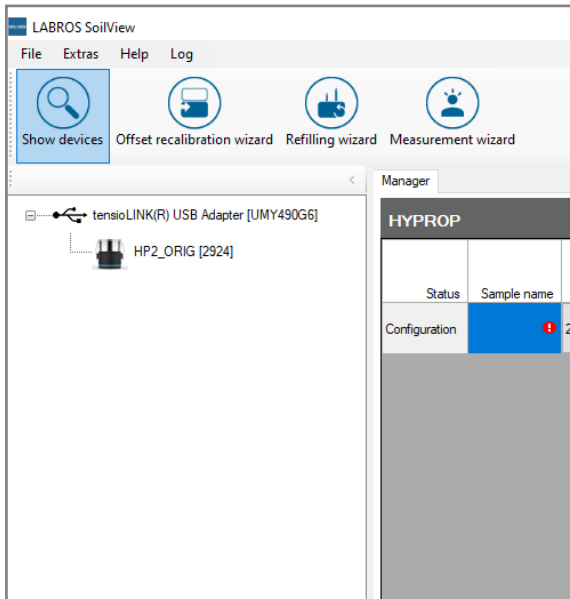

Figure 35 Show devices
4. Select Show Devices (Figure 35).